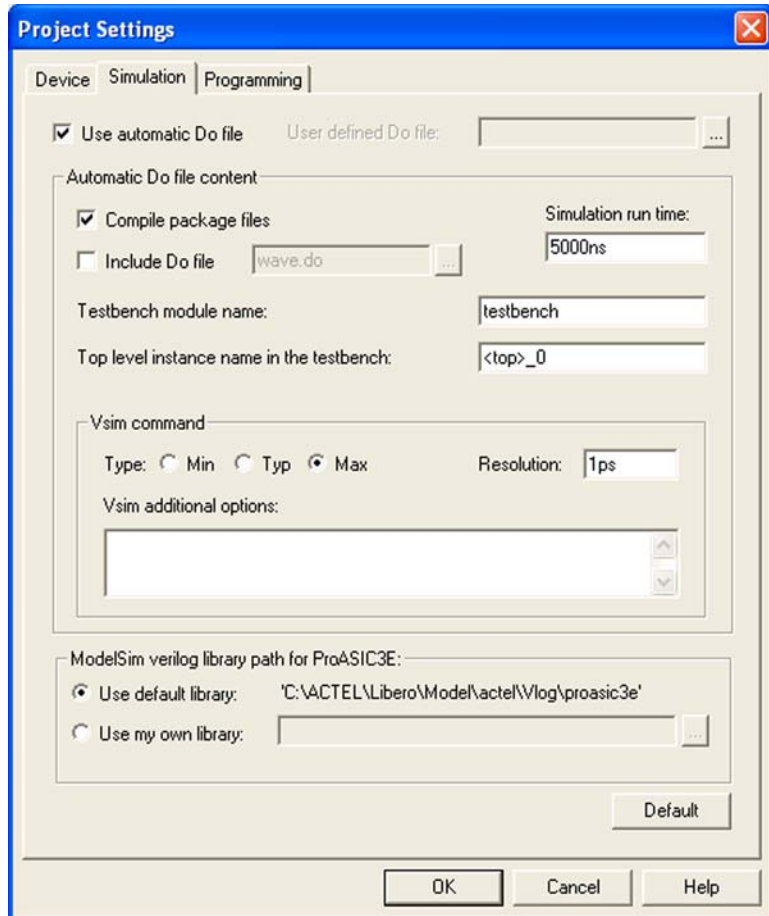

Figure 5-30. Simulation Project Settings
The Project Settings: Simulation options window appears (Figure 5-30).
5. Change the **Simulation run time** from **1000ns** to **5000ns**, as shown in Figure 5-30, and click **OK**. Changing the run time allows the default BFM test scripts to complete without having to invoke additional run time from within the ModelSim simulator.